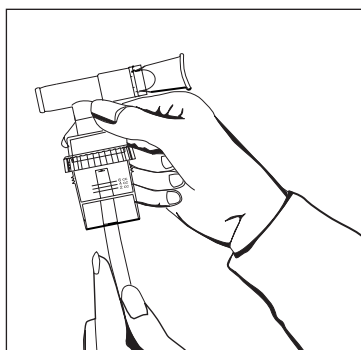

Figure 6/Figura 6
- Attach tubing to nebulizer air-inlet connector **Figure 6**.